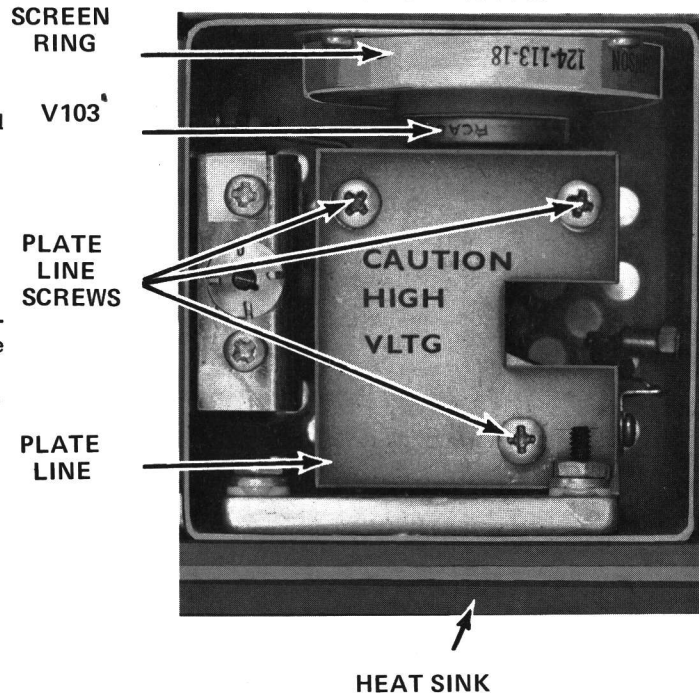

Figure 2 - PA Plate Box With Cover Removed
2. Remove the top cover on the AMPL PLATE box (fig. 2). Allow the transmitter to cool if necessary.